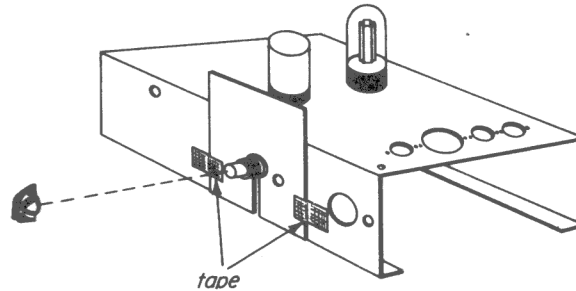

Fig. 19-8
Step 2. Loosen the nut holding down the potentiometer on the receiver chassis, and slip the prepared card under it as shown in Fig. 19-8, passing the slot in the card around the shaft of the control. Line up the edge of the card even with the bottom of the chassis, and secure it in position with a piece of cellulose tape on each side.